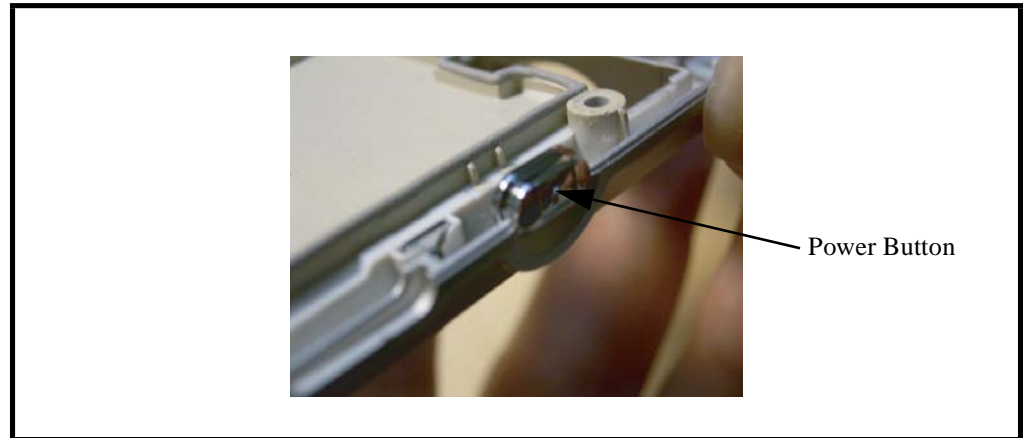

Figure 29. Removing the Power Button
2. Remove the power button from the phone as shown in Figure 29.